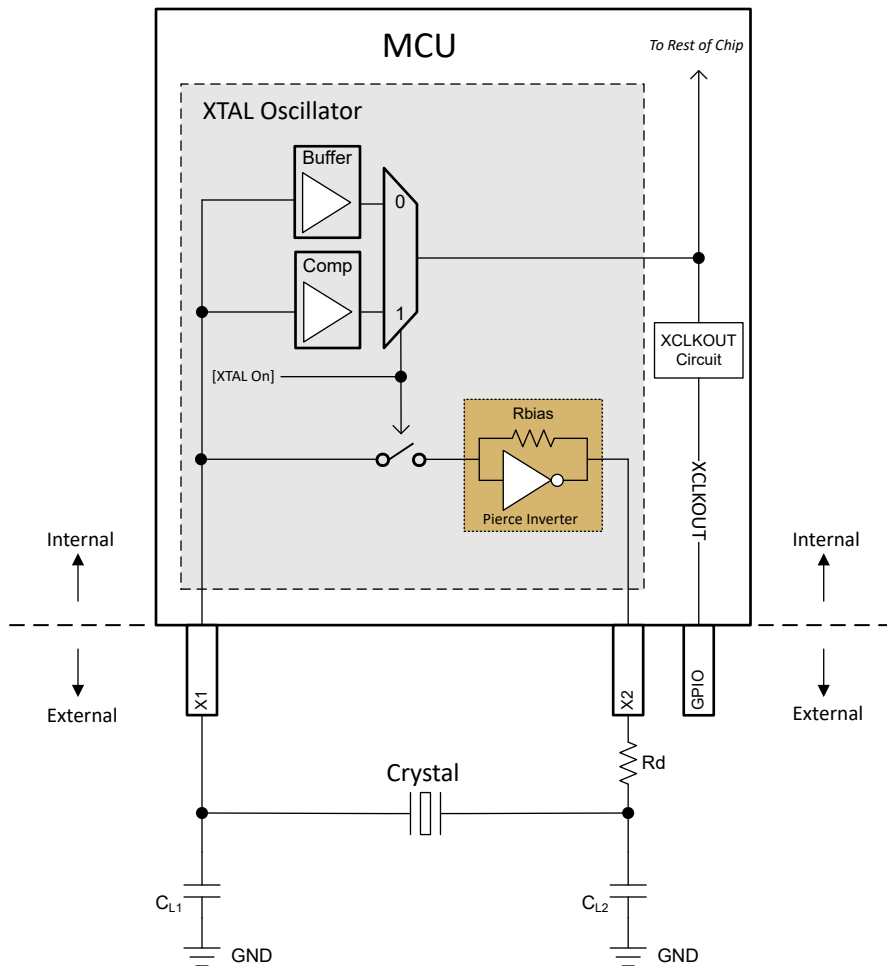

Figure 6-16. Electrical Oscillator Block Diagram
The electrical oscillator in this device is a Pierce oscillator. It is a positive feedback inverter circuit that requires a tuning circuit in order to oscillate. When this oscillator is paired with a compatible crystal, a tank circuit is formed. This tank circuit oscillates at the fundamental frequency of the crystal. On this device, the oscillator is designed to operate in parallel resonance mode due to the shunt capacitor (C0) and required load capacitors (CL). Figure 6-16 illustrates the components of the electrical oscillator and the tank circuit.
From Figure 6-16, CL1 and CL2 are in series; so, to find the equivalent total capacitance seen by the crystal, the capacitance series formula has to be applied which simply evaluates to $[CL1]/2$ if $CL1 = CL2$.